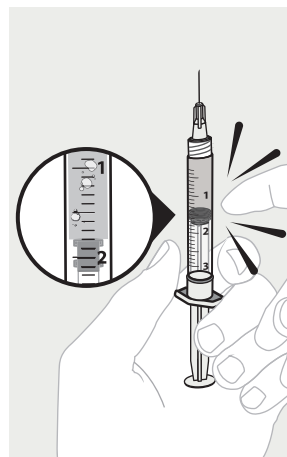

Figure 55
- Invert the syringe so that the needle is pointing up. Tap on the side of the syringe to loosen any air bubbles until they float to the needle hub (see Figure 55). Press on the plunger until air is expelled.